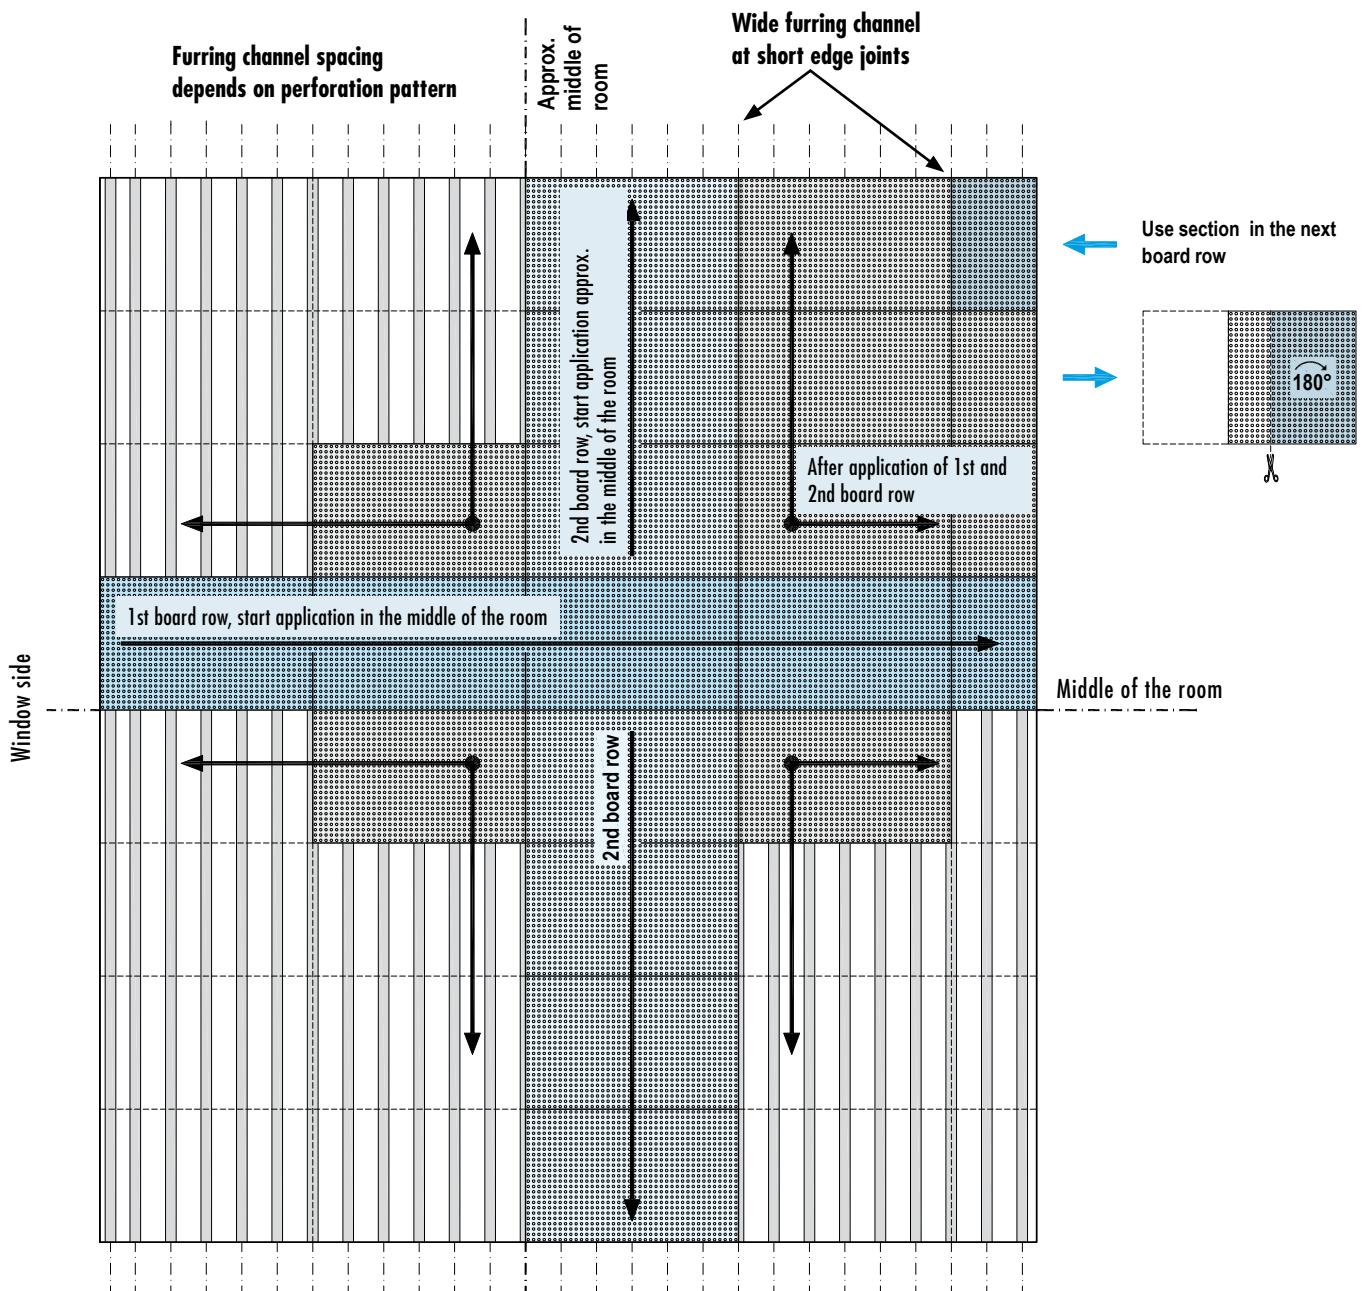

FIGURE 7 Installation Scheme
- › Start sheeting from the centre of the room. [Figure 7]